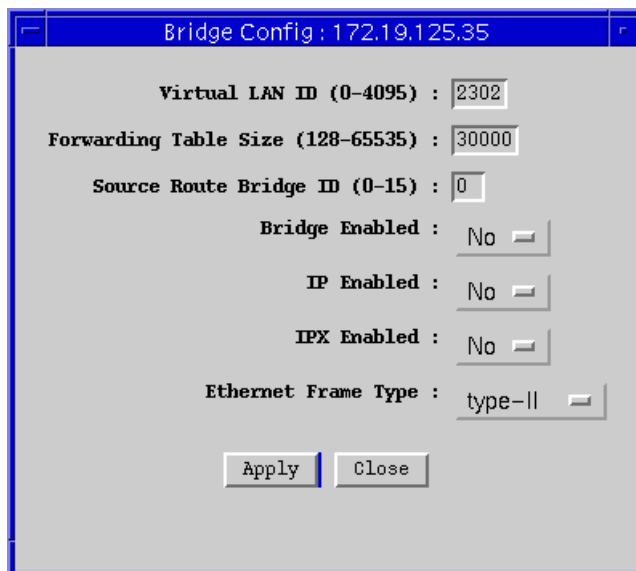

Figure 11-1. Bridge Configuration
2. Drag down to **Bridge Configuration**, and release. The Bridge Configuration window, Figure 11-1, will appear.